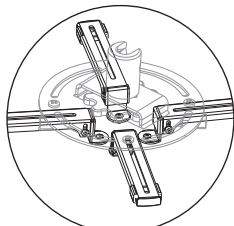

figure 11
3.Connect the installation arms to the projector conversely if the distance of installation holes is less than 120mm. Connect the installation arms to the installation base via sliding installation button as figure 11